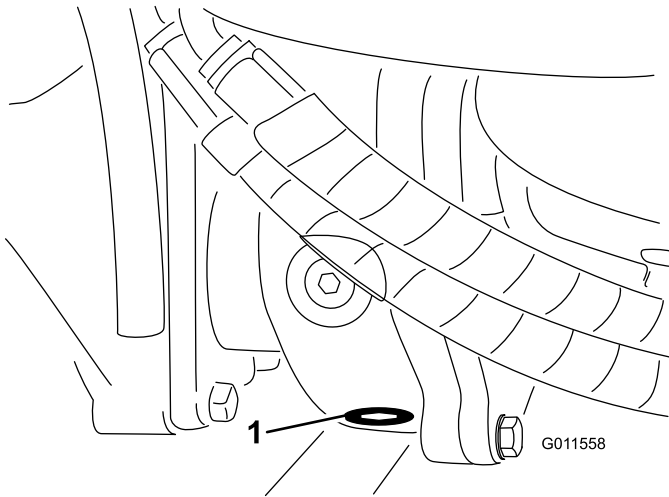

Figure 67
5. Clean the area around the drain plug at the bottom of the gearbox (Figure 67).